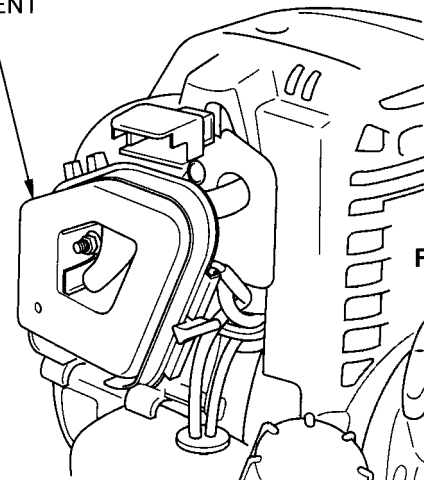

FIG 31
The air filter (Fig 31) is one of the most important areas to maintain. If it is not maintained, you will void the warranty. Before cleaning, make sure the unit is turned off.
- If air filter is dirty then correct idle adjustment can not be made and air filter must be cleaned. Refer to Air Filter Maintenance and Fig 31, 32 and 33A.